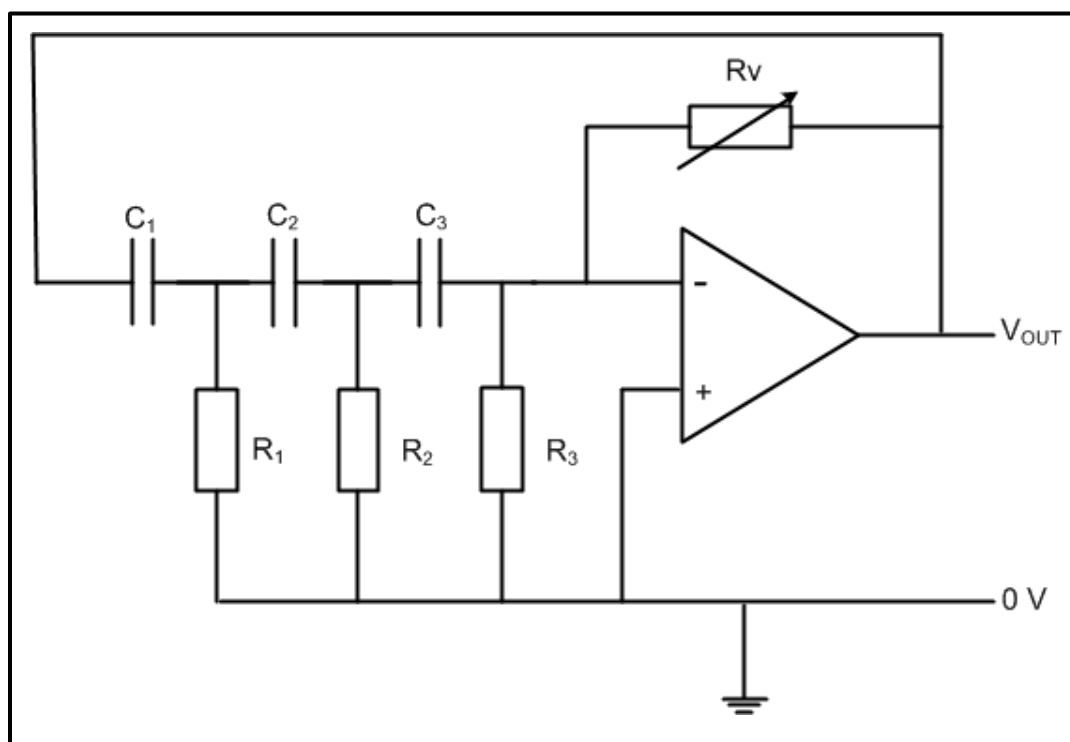

FIGURE 7.5: RC PHASE-SHIFT OSCILLATOR CIRCUIT
7.9 Refer to FIGURE 7.5 below and answer the questions that follow.